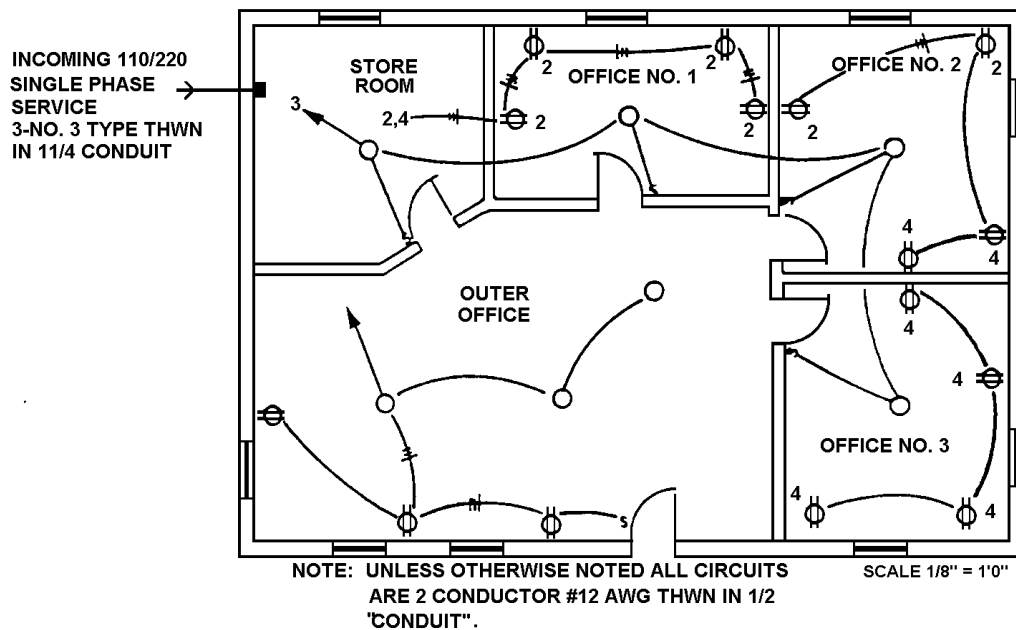

Figure 3
- \* f. Given figure 3 Define the point of a Horizontal curve by Arc and chord definition given the following:
- k. Describe the layout and design of the interior electrical plan shown in figure 3.